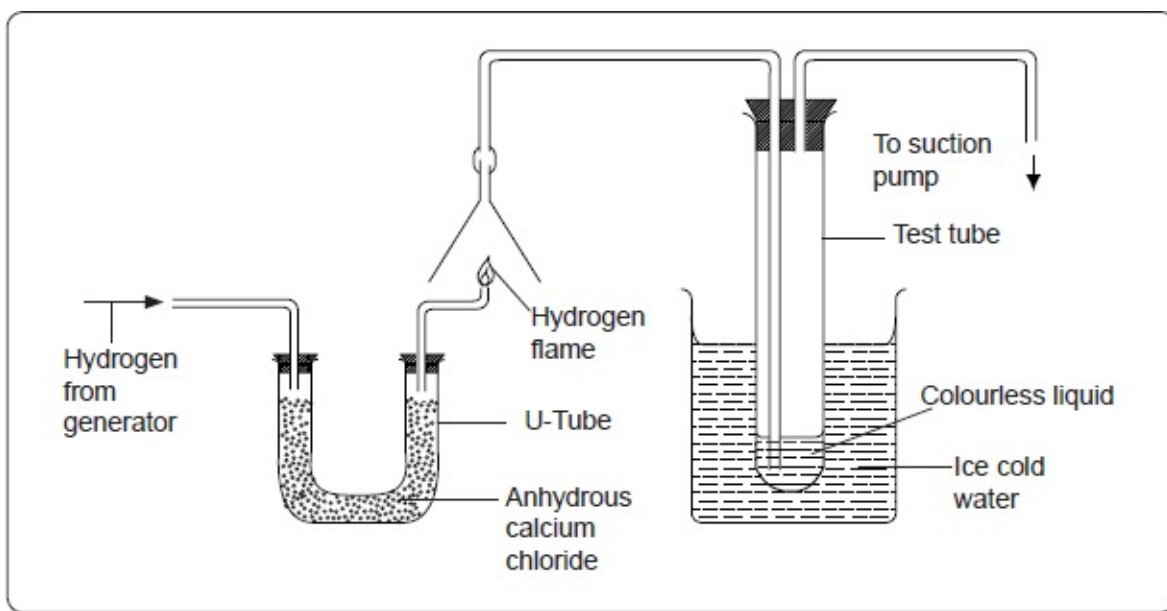

Fig 5.10: Products of burning hydrogen in air.
Arrange the apparatus as shown in figure 5.10. Pass a stream of hydrogen gas through anhydrous calcium chloride. Test the gas for purity by collecting samples over the jet and testing with a burning splint until the gas burns silently. Light the gas at the jet and turn on the pump. Draw in the products of the burning hydrogen using the pump for about 15 minutes. Test the liquid in the test-tube using white anhydrous copper (II) sulphate.